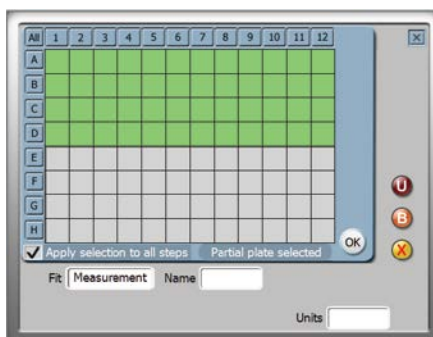

Figure 19. Plate Mapping screen. On the plate mapping screen, green indicates selected wells and gray indicates deselected wells.
1. Touch the “Plate” button to open the Plate Mapping screen. Select wells to be read. Green indicates a well is selected. Gray indicates a well is deselected (Figure 19).